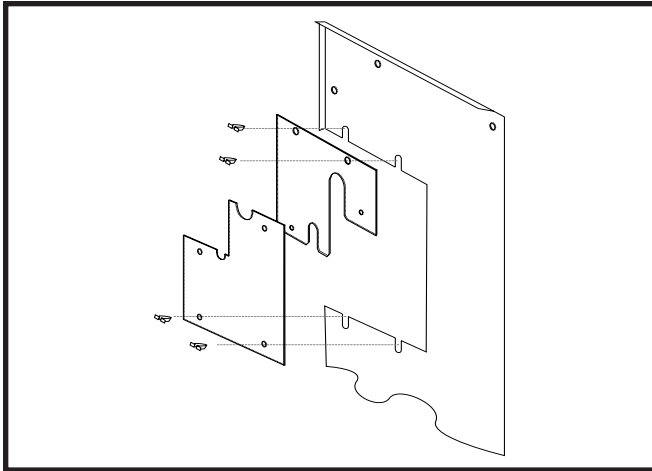

Figure 2. Close-Off Plate Assembly
- Close-off plates are available in some air filter kits. Refer to the Replacement Parts List for available part numbers. Install the necessary close-off plates around the refrigerant lines and drain line where required. See Figures 2 - 5 (page 4). Reinstall all inner and outer panels of the furnace/air handler that were previously removed when installing the indoor coil.
5. Slide the close-off plates around the refrigerant lines and install the provided dart clips. See Figure 2.